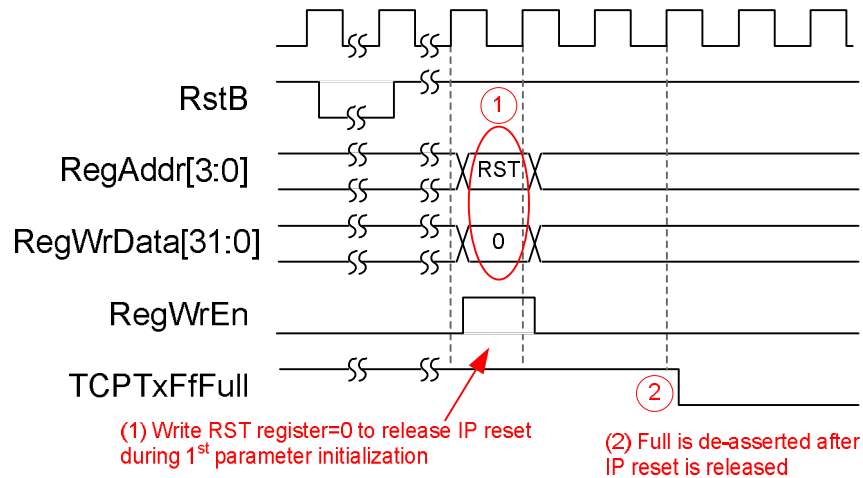

Figure 5 TCPTxFfFull de-asserted from IP reset is released
- 2) After ConnOn='1' and CMD register still not set to Send data mode. The read pointer of TxBuffer is related to the acknowledge number of returned ACK packet. When port is opened (ConnOn='1'), the acknowledge number and read pointer will be updated which is effect to. TCPTxFfFull asserted. The write pointer of TxBuffer will be updated when user sets CMD register=Send Data, so TCPTxFfFull will be de-asserted, as shown in Figure 5.